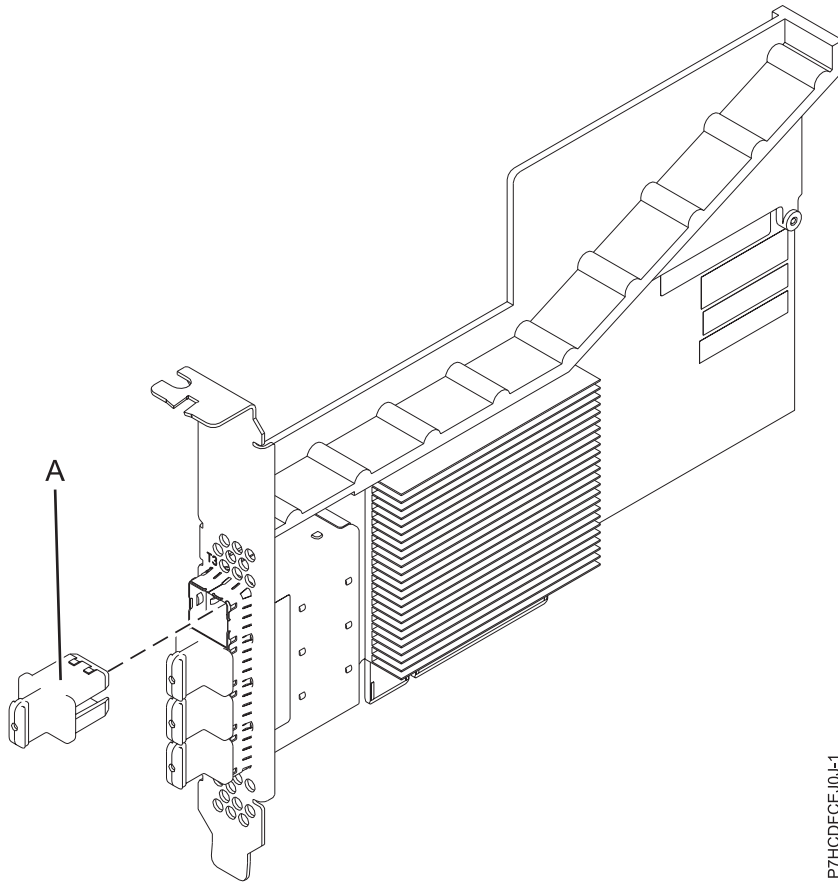

Figure 56. PCIe3 RAID SAS quad-port 6 Gb LP Adapter
various narrow and wide-port configurations. SAS tape attachment is only supported in a single adapter configuration and cannot be mixed with SAS disk on the same adapter. The adapter does not have write cache. Figure 56 on page 153 shows the PCIe3 RAID SAS quad-port 6 Gb LP Adapter.
Figure 56 on page 153 shows the adapter. The connector plug (A) is installed in an empty port and prevents damage to that port whenever a cable for the adjacent port connectors is plugged-in or removed.